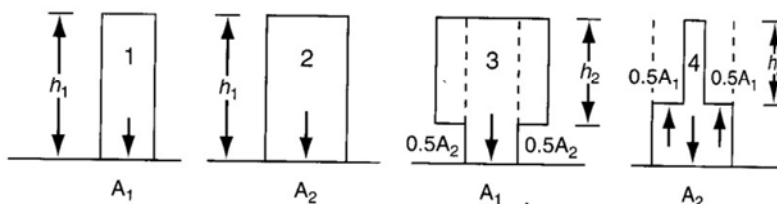

Figure SAT5.1Q2
- Figure SAT5.1Q2 shows four closed containers completely filled with water. Order the containers from the one exerting the highest pressure to the lowest on their respective base.